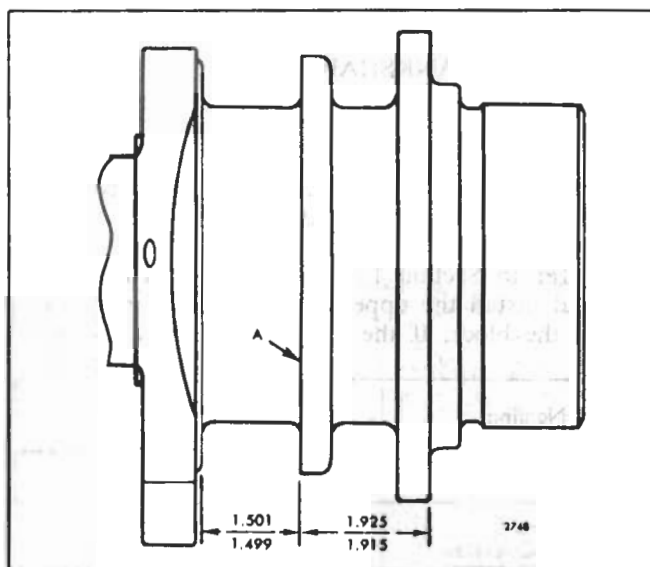

Fig. 8 - Standard Dimension at Rear Main Bearing Thrust Washers
Also measure the crankshaft thrust washer surfaces (Fig. 8).
6. If the thrust surfaces of the crankshaft (Fig. 8) are worn or grooved excessively, they must be reground and polished. Care must be taken to leave a .100" to .130" radius between each thrust surface and the bearing journal.
NOTE: If the crankshaft thrust surfaces were reground, it may be necessary to install oversize thrust washers on one or both sides of the rear main journal. Refer to Fig. 8 and Table 3.